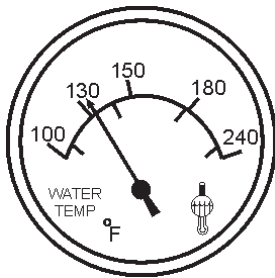

Figure 50. Coolant Temperature Gauge
13. The coolant temperature gauge (Figure 50) will indicate the coolant temperature. Under normal operating conditions the coolant temperature is between 165 and 203° degrees Fahrenheit.